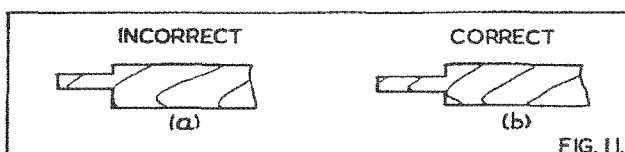

FIG. 11.
3. To check this setting feed a short piece of timber from the rear, along both sides of the riving knife. If the riving knife is incorrectly set the blade will cut unequal shoulders as shown in Fig. 11 (a) and when correctly set equal shoulders as shown in Fig. 11 (b).